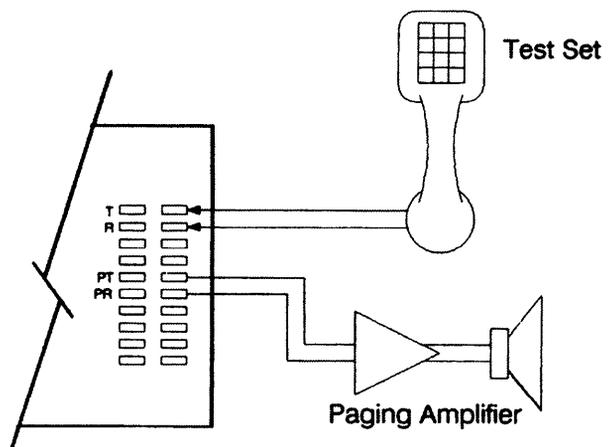

Figure 11. Test Procedure A
3. Connect a test set to T & R terminals on UPAM (test set should be on hook). See Figure 11.